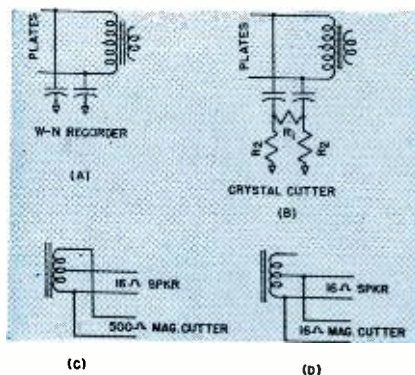

Fig. 7. Change in output wiring for feeding different types of recorders.
The type of recorder used will control the switching circuits to a great extent. For the Wagner-Nichols unit used in this particular job, it is necessary to connect the crystal cartridge to either the input or the output of the amplifier. Most recorders employ a separate unit for playback, which simplifies this switching. It is desirable to connect the cutter of the Wagner-Nichols unit to the plates of the output tube through capacitors, giving a constant-amplitude characteristic over the entire range. With other crystal cutters, some series resistance should be employed to provide a characteristic which is similar to standard phonograph records. Low-impedance magnetic cutters will naturally be connected to a source of the correct impedance. Various arrangements for these connections are shown in Fig. 7.
When desired for use with an ordinary crystal cutter, the wiring of the output circuit and the feed for the recorder should be modified as shown at (B) of Fig. 7. (C) and (D) show connections for 500-ohm and 16-ohm magnetic cutters respectively. The wiring of the complete output circuit for feeding the recorder is shown in Fig. 3, complete with VI and speaker circuit wiring.